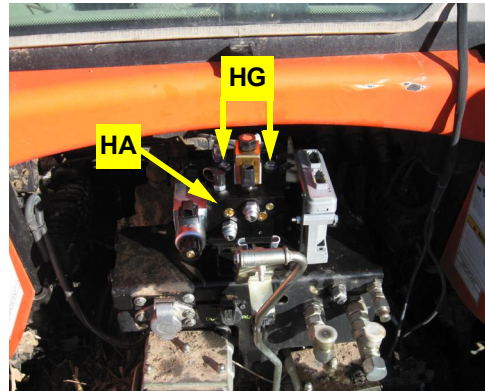

Figure 2d: Installed steering block
- c. Attach the hydraulic steering block **HA** to its mounting bracket **HE** using hardware **HG**. (Figure 2d).
- d. Figure 2d shows a gray control box that is used with eDriveX/XC controllers only. For detailed install instruction refer to the eDriveX/XC ECU install guide.